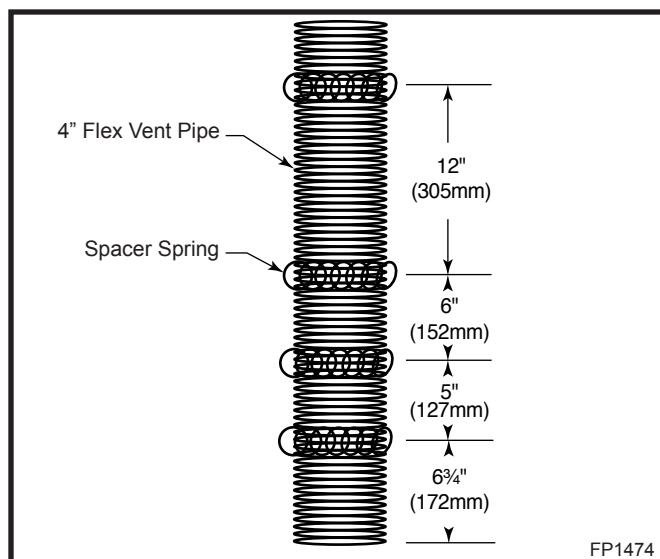

Fig. 35 Install spacer springs.
Install the four (4) spacer springs on the 4" flex vent pipe. When installing the spacer springs around the 4" pipe, stretch the spring to approximately 15" (381 mm), wrap the spring around the pipe and interlock the ends of the spacer spring approximately 2" (51 mm). Measure 6¾" (172 mm) from the end of the pipe. Place the next spring 5" (127 mm) from the previously installed spring. Place the next spring 6" (152 mm) from the last spring. Finally place the last spring 12" (305 mm) from the last spring installed. (Fig. 35)